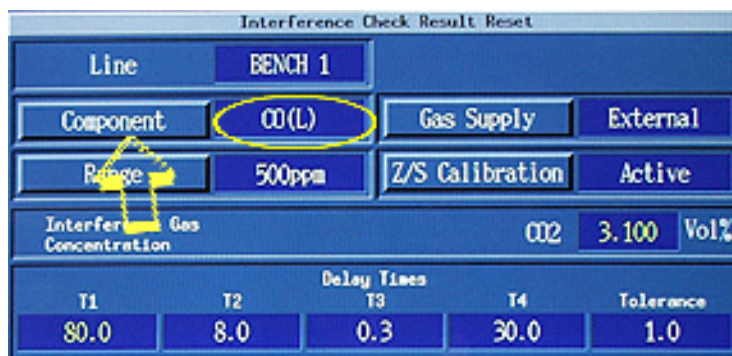

Figure 9
- 107 The "Interference Check Result Reset" subpanel will appear, click on the "Component" button. See the arrow in Figure 9.
From menu items that appear below the button, click on "CO(L)." See the circle in Figure 9.